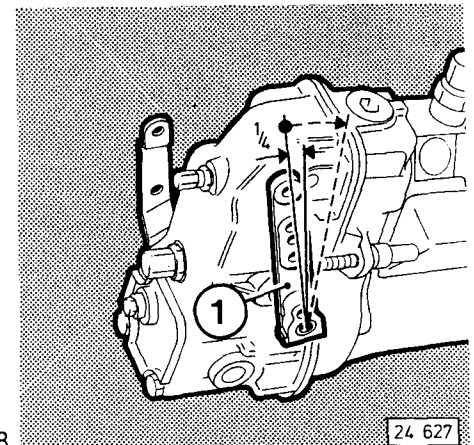
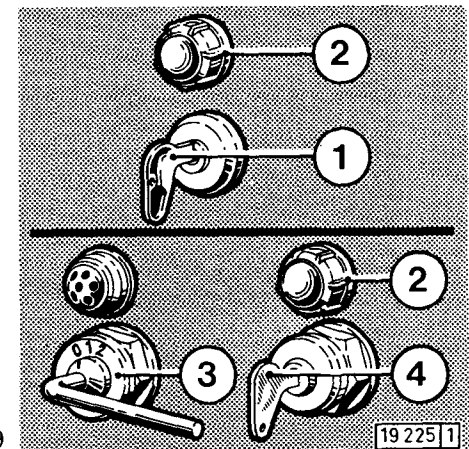

Fig. 28
Fig. 29
- Move speed control lever 1 (Fig. 28) to about quarter speed by hand or foot.
- Insert starter key 4 (Fig. 29), and turn clockwise to detent, checking that charging pilot lamp 2 lights up.
- When engine starts firing, release key 4, which will return to zero position.
- Should the engine not start smoothly or expel grey-white smoke, do not attempt to accelerate with the speed control lever 1 (Fig. 28), but